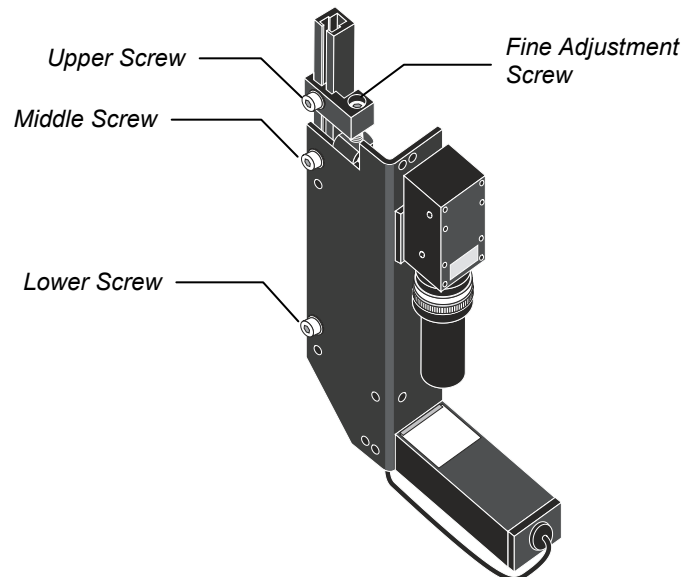

Figure 3-9 Focusing the Camera
1. Hold the camera and use a 4 mm hex key to loosen the three side screws (upper, middle, and lower) on the bracket (Figure 3-9).